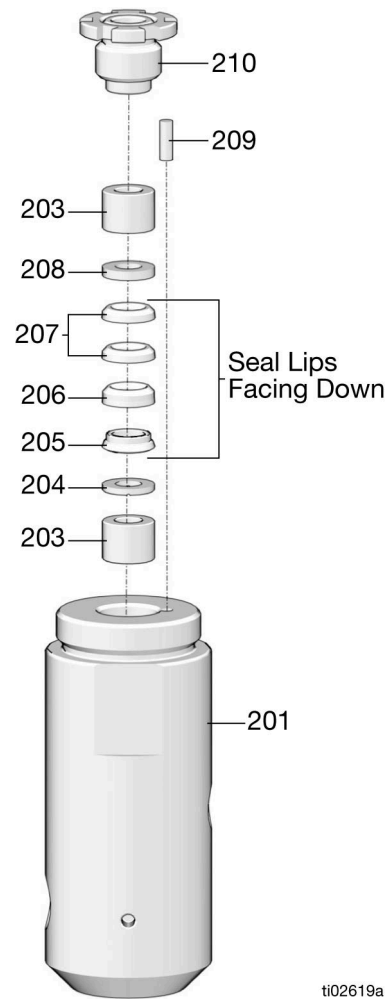
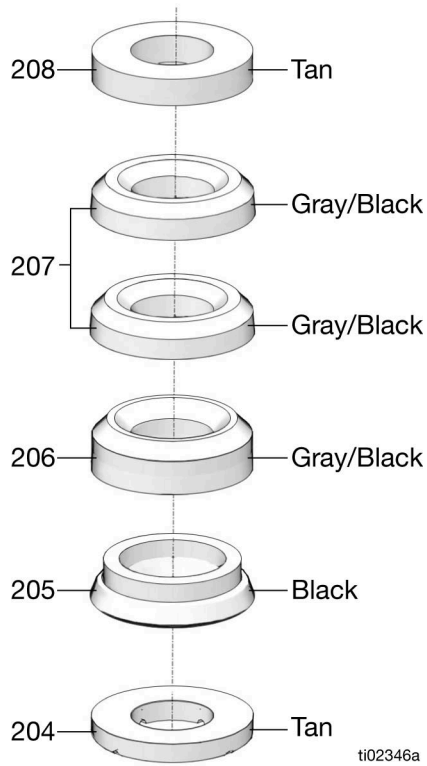

FIG. 13: Wolverine Fluid Module Repair
FIG. 14: Packing (206) detailed view
1. Remove packing nut (210) from the fluid cylinder (201) with a 5/32 in. hex key (FIG. 13).
2. Remove the bearings (203)
4. Replace the packings (204 to 208) and bearings (203). Lubricate the packings prior to reassembly (FIG. 13 and FIG. 14).